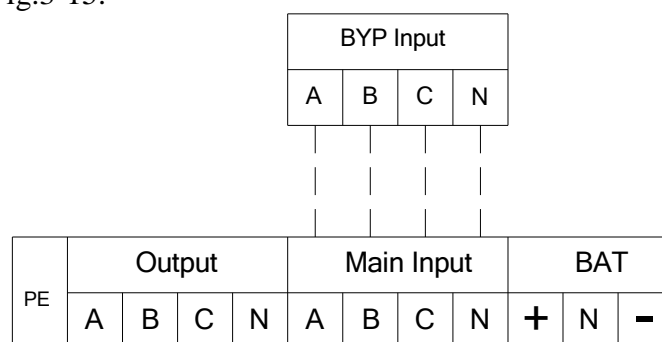
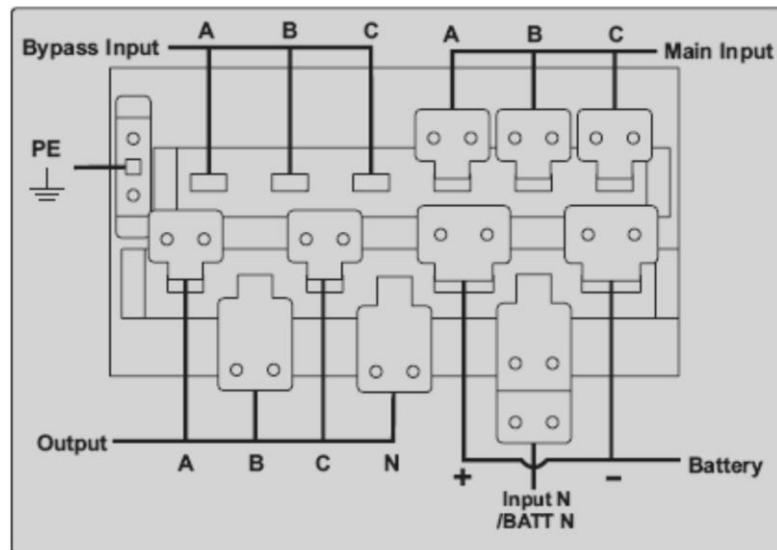
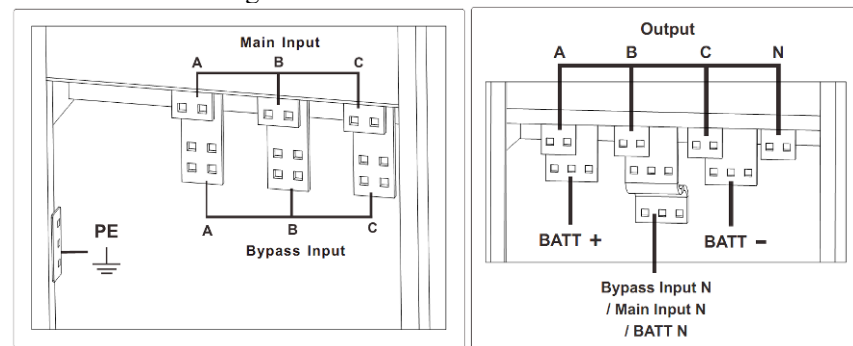

Fig.3-13 6-slot connections terminals
Fig.3-14 10-slot connections terminals
Fig.3-15 20-slot connections terminals
2. Open the back door of the cabinet, remove the plastic cover. The input and output terminal, battery terminal and protective earth terminal are shown in Fig.3-13, Fig.3-14, and Fig.3-15.
Interfaces diagram for J2 and J3 are shown in Fig.3-14, the description of interface is in Table 3.6.